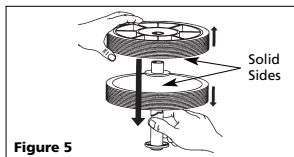

Figure 5
4. Put both wheels on axle, **solid sides together** (Figure 5).